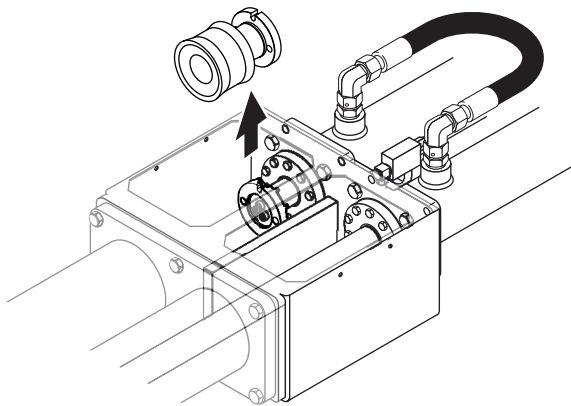

Figure 27
11. Remove the nut and bolt, and the ram will be free to come out of the waterbox (Figure 27).